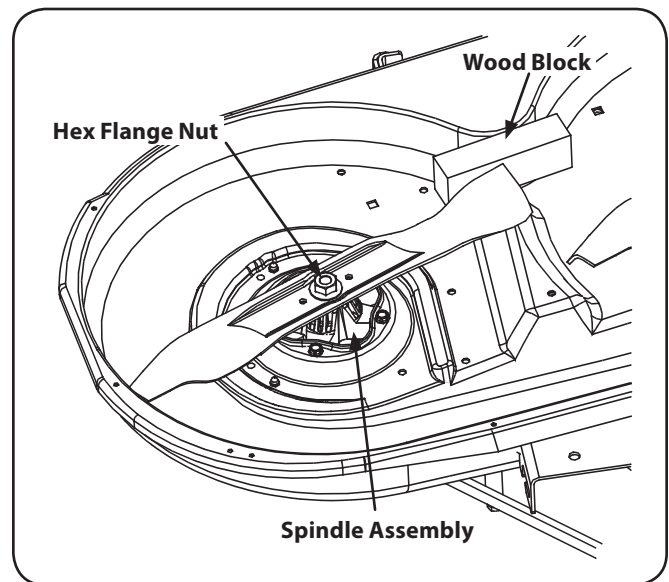

Figure 7-8
2. Use a $1\frac{5}{16}$ " wrench to hold the hex nut on top of the spindle assembly when loosening the hex nut securing the blade. A block of wood may be placed between the deck housing and the cutting edge of the blade to help in breaking loose the hex nut securing the blade. See Fig. 7-8.